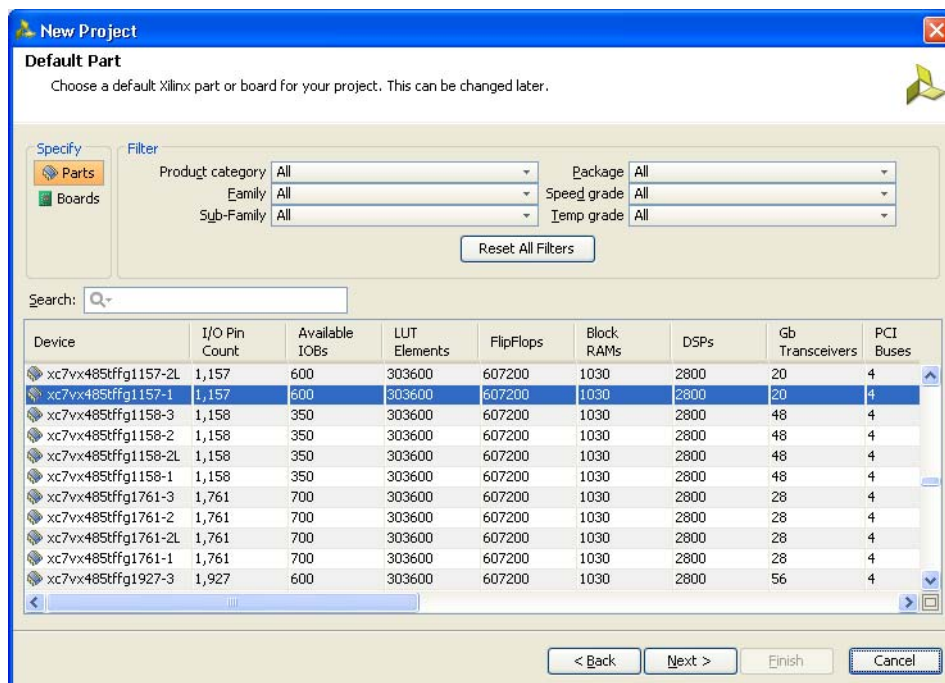

Figure 4-8: Default Part (Default Window)
8. Click **Next** to proceed to the **Default Part** page (Figure 4-8) where the device that needs to be targeted can be selected. The **Default Part** page appears as shown in Figure 4-8.